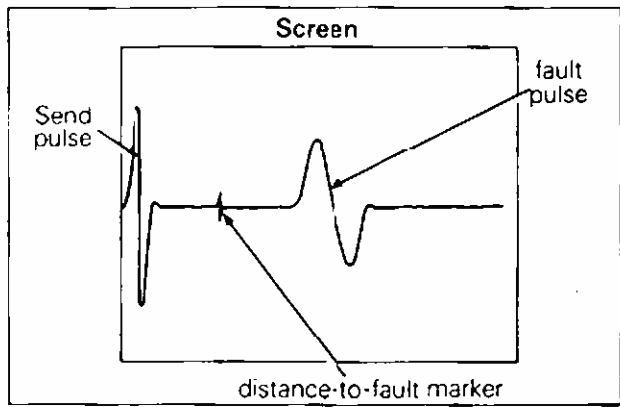

Fig. 5
- 4.3** Adjust 'Coarse Gain' control until fault pulse is clearly visible, (see Fig 5).